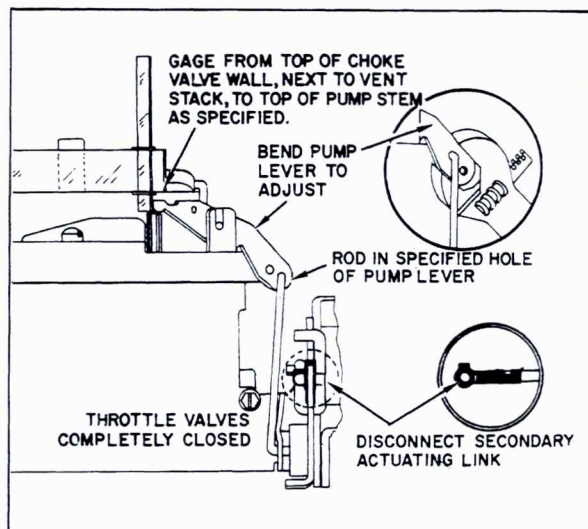

Fig. 6-78 Accelerator Pump Adjustment
81. Pump Rod Adjustment (Fig. 6-78)
2. Dimension should be 11/32 inch. Bend pump lever at the pump stem end, Fig. 6-78 to adjust.